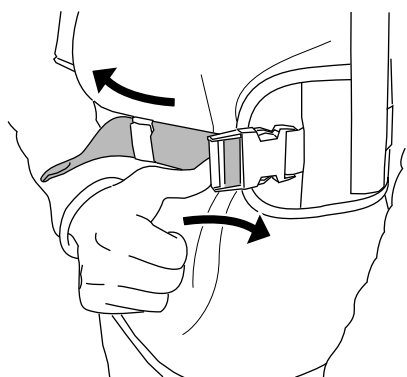

Figure 14
7. If the hip belt is too tight, push sideways on the adjuster to lengthen the straps (Figure 14).
8. If the sternum strap is too tight, push sideways on the adjuster to lengthen the straps (Figure 14).